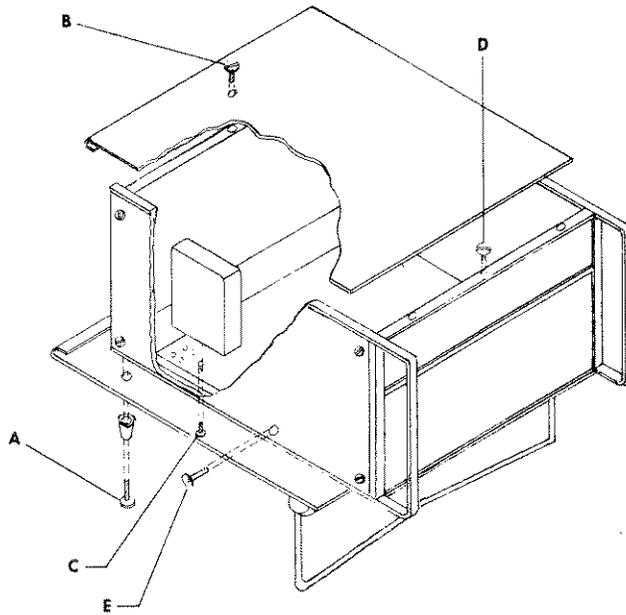

Figure 5-1. Disassembly
Refer to Figure 5-1.
Refer to Figure 5-22. First remove cable W2 from the Amplifier and the M110 Sweep Oscillator. Remove the sweep sample cable, W5, from the Amplifier, and remove the output cable W3 from the Step Attenuator. (Do not attempt to remove cable W3 from the Amplifier yet.) Next, remove the 6 screws holding the right-side panel to the instrument (screws (E) in Figure 5-1). Do not remove the two screws in the side panel holding the Amplifier to the side panel. The right-side panel can now be removed from the instrument, which will provide access to the Amplifier. The Amplifier can be operated in this position by substituting for cable W2 with a longer flexible cable provided in the service kit. Remove cable W3 from the Amplifier output and connect an RF detector or power meter directly to the Amplifier output to check its performance. To reinstall the Amplifier, reverse this procedure. Remember to securely tighten cable W3 to the Amplifier output before reinstalling the side panel.